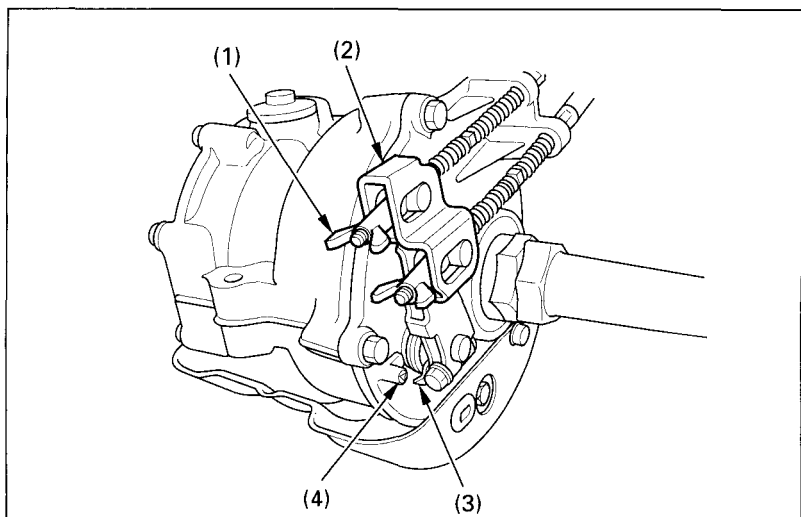

Fig. 4-25      (1) Brake lever adjusting nut      (3) Arrow
When the brake is applied, an arrow (3) attached to the brake arm (2) moves toward a reference mark (4) on the brake panel (see Fig. 4-25).